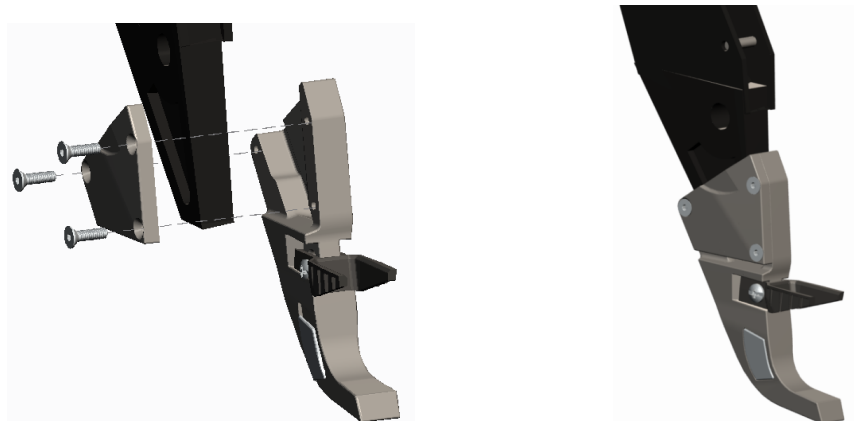

Figure 1-10
Place the left (cap) side of the guard on the shank and align the three holes on the guard body. Utilizing the 1/8" allen bit included in the SpeedTube Essentials Kit, secure the guard with the three (3) supplied #10-24 X 3/4" flat head screws. Refer to figure 1-10.